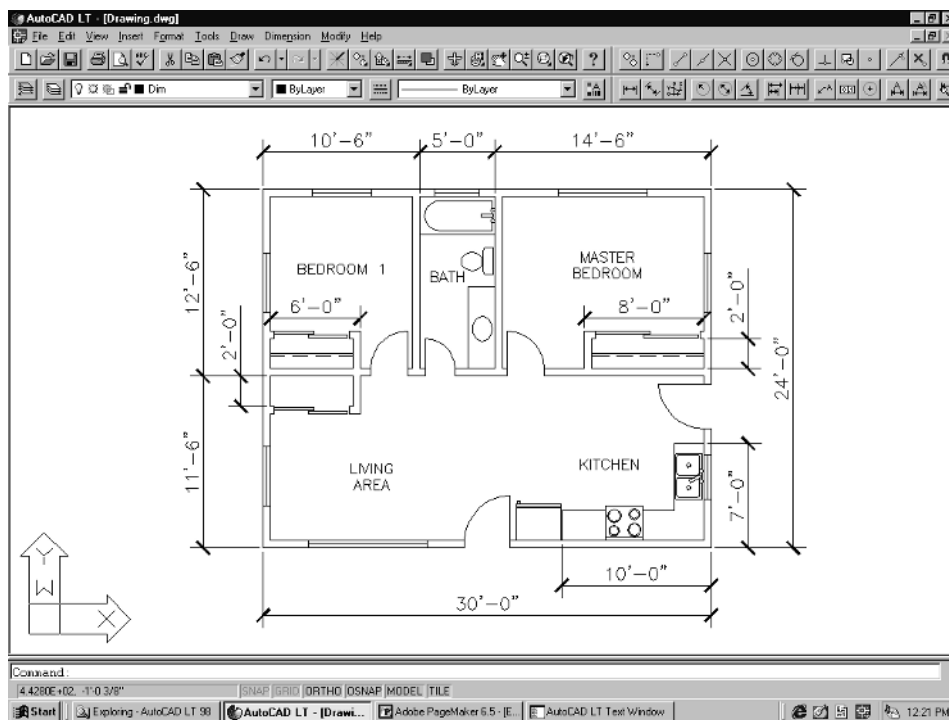

Figure 2-115
6. Now that you have the idea, go ahead and finish dimensioning the drawing. Pick **Linear** from the Dimension pull-down menu or toolbar, and go for it. The finished dimensions should be similar to those shown in Figure 2-115.